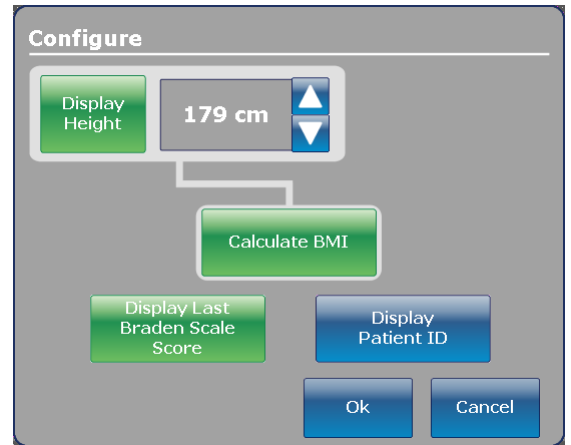

Figure 21 – Configuring private patient information
1. Tap the option in the **Configure** screen that you want to display (Figure 21).